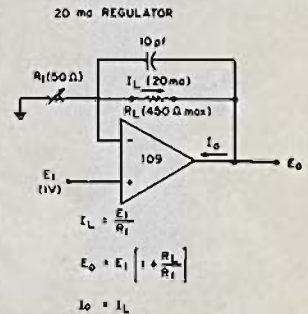

Figure 3.
The circuits of Figures 3, 4, 5 and 6 are subject to common mode error which is dependent on input voltage level. For E_i greater than 5 volts common mode error may be substantial; but for a fixed reference voltage, the resulting error can be viewed as a gain error which can be calibrated.
By the same token, input offset current will, in general, add algebraically with the input current I_i , (E_i/R_i). The same ratio as above but in terms of offset current and input current yields the error due to this factor. It is important that the source impedance of E_i for the non-inverting configurations of figures 3 and 4 be low since the input offset current flows through the source impedance producing an additional input voltage offset error.
1. Same as Figure 3